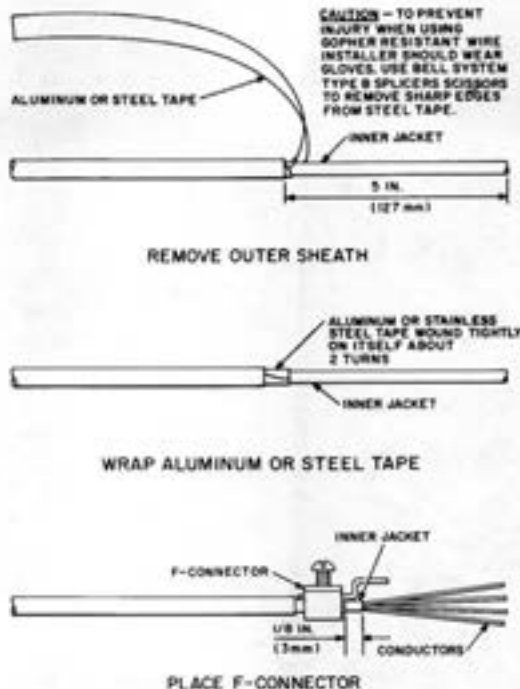
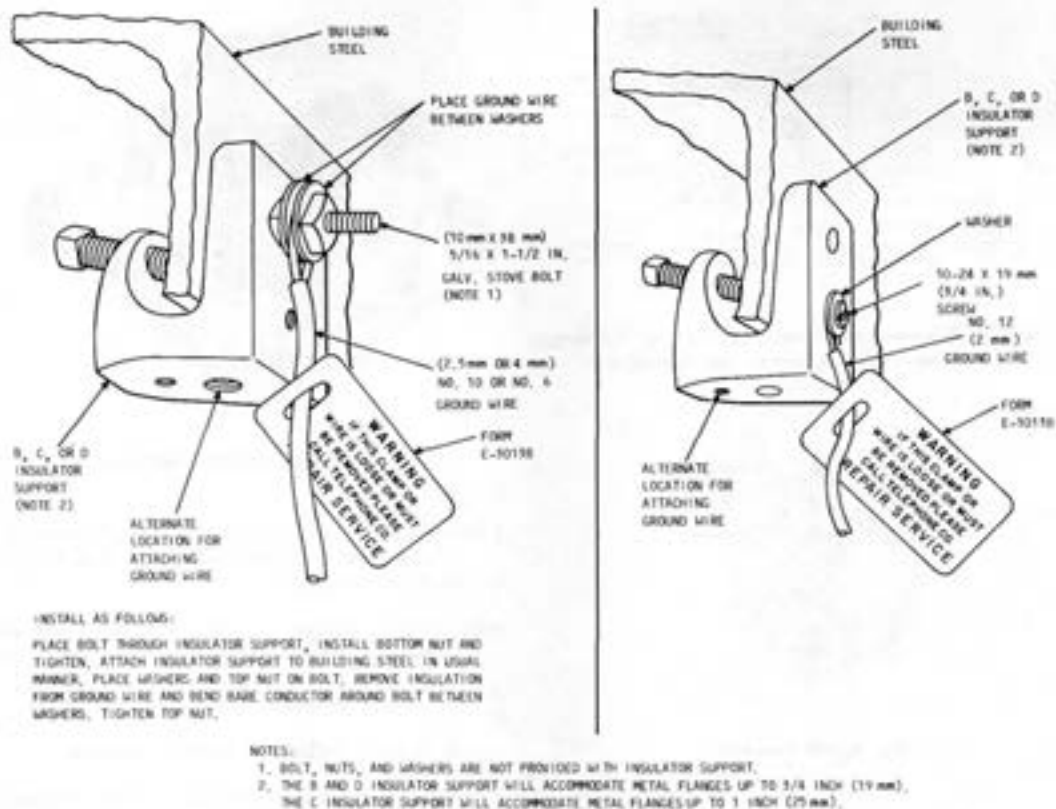

Fig. 25—Preparing B or C Service Wire for Bonding of Metal Shield
Fig. 56—#Grounding to Building Steel#
connected to the shield of a service wire in the same manner as the F connector (Fig. 25).
6.11 See Table E for ground clamp selection. See Table F and Fig. 25, 52, 53, 54, and 55 for wire connectors. Connections to building steel may be made by using a C or D insulator support (Fig. 56).